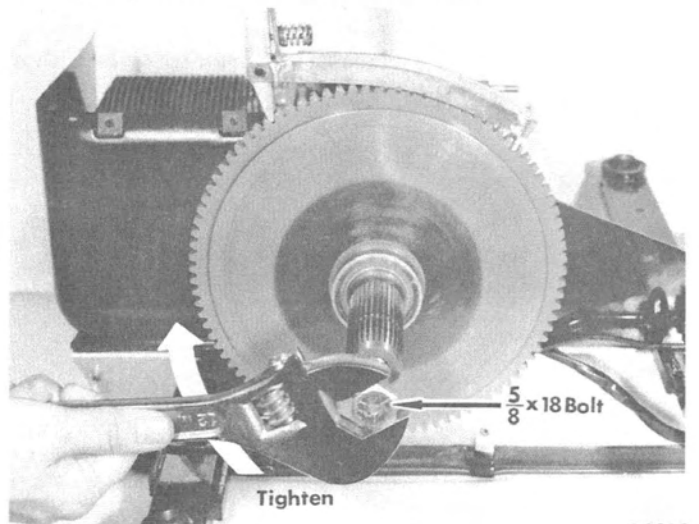

Figure 4. Removing Flywheel from Crankshaft
8. Hold flywheel with flywheel holder and tighten screw until flywheel snaps loose from crankshaft. Remove flywheel and screw. (Figure 4)